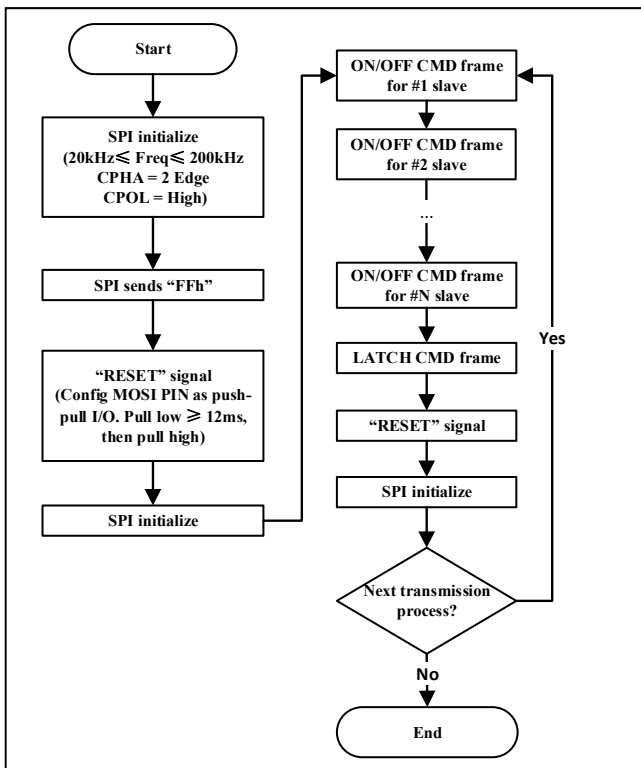

Figure 43 Flowchart “LATCH” Follows with “RESET”
After SPI interface initialization, the MOSI line may be in a logic low state. Please force the SPI to send a "FFh" data after to get a logic high for the onewire serial BUS idle state, See Figure 43 and 44 program flow chart.
- 1) Each “LATCH” command frame should be followed with a “RESET” signal which resets the onewire serial BUS and gets it ready for the next transmission process. As Figure 43 program flowchart.